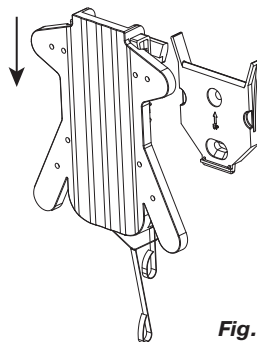

Fig. 6
2. Carefully slide the mount with your display attached into the wall plate (see Fig. 6). **Do not release the display until the display plate is securely placed on the wall plate.**